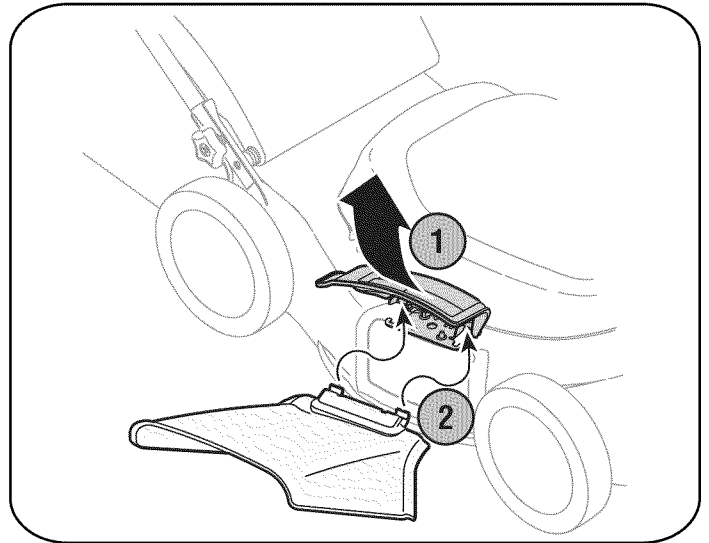

Figure 7
2. Slide chute hooks under hinge pin on mulching plug assembly. See Figure 7.